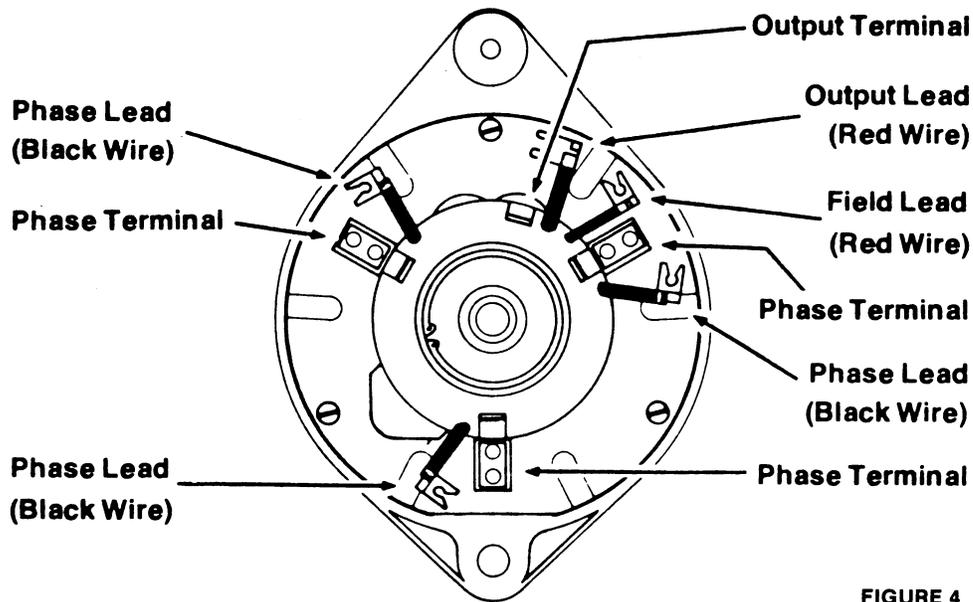
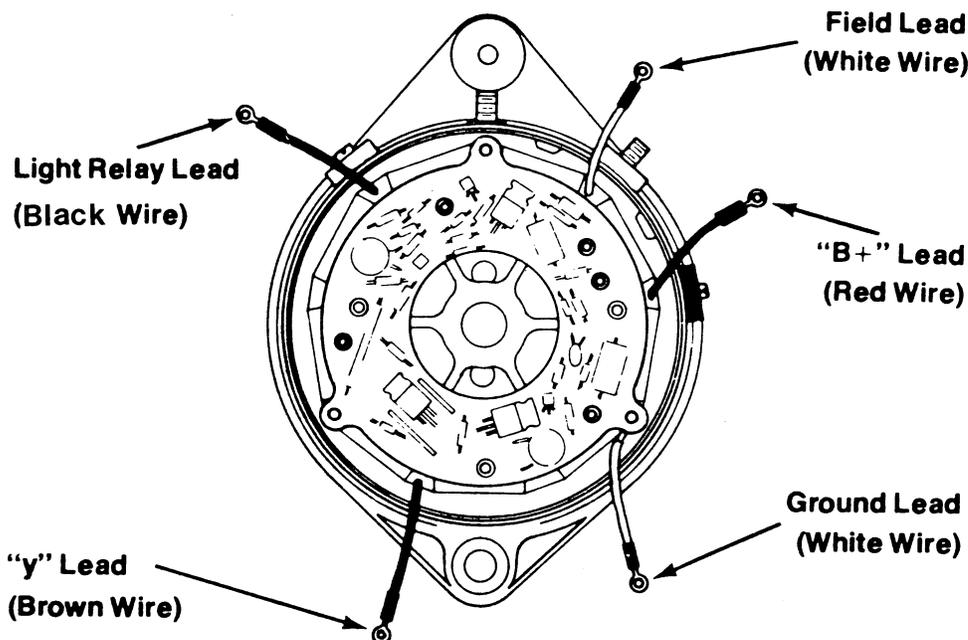

FIGURE 4
FIGURE 5
- Connect a continuity tester between each successive pair of stator phase leads (black wire). See Figure 4. If lamp does not light, the stator is open and the alternator assembly must be replaced.
- Connect one ohmmeter lead to the field lead in Figure 4 and the other lead to the alternator frame. Any needle movement indicates a grounded field coil and requires replacement of the alternator assembly.
- Connect one ohmmeter lead to the field lead in Figure 5 and the other lead to the alternator frame. Any needle movement indicates a grounded field coil and requires replacement of the alternator assembly.
- Connect an ohmmeter across the field lead in Figure 4 and the field lead in Figure 5. The ohmmeter should read 5 ± 1 ohms.